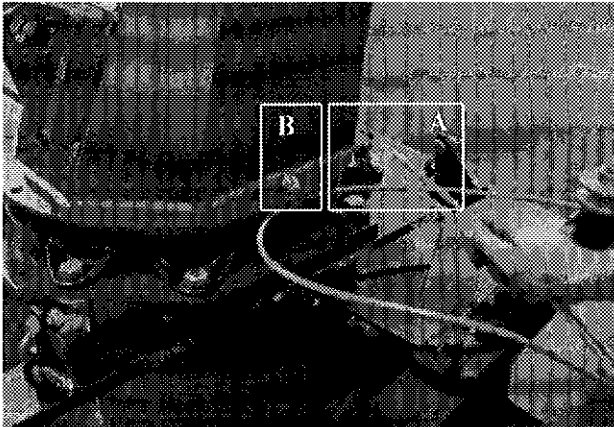

Figure 23
- 2) Place steel cable with both ends equal (A Fig. 23) and secure solidly with wire clamp provided (B Fig. 23).